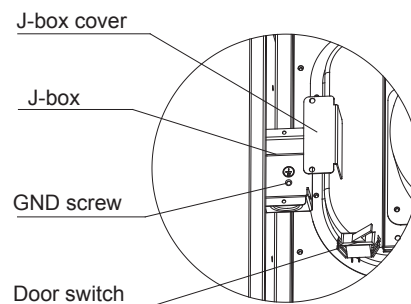

Fig. 31- J-box
1. Remove and save two screws holding J-Box. (See Fig. 31.)
4. Remove and save two screws holding J-Box. (See Fig. 31.)